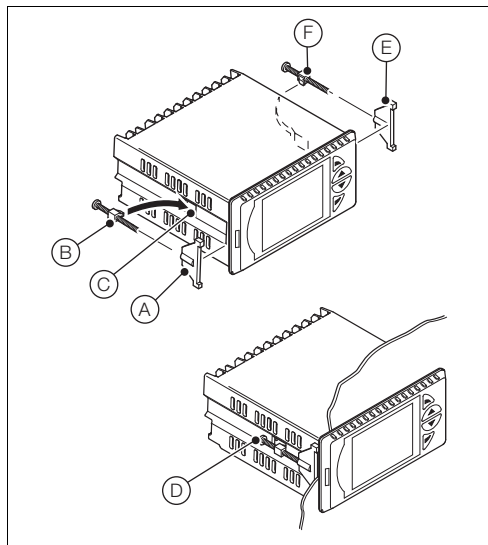

Fig. 4.4 Mounting Details
3. Referring to Fig. 4.4:
- a. Position the upper panel clamp (A) at the top front of the case against the panel.
- b. Locate the panel clamp anchor (B) in slot (C).
- c. Tighten the panel clamp anchor screw (D) until panel clamp (A) is secured against the panel.